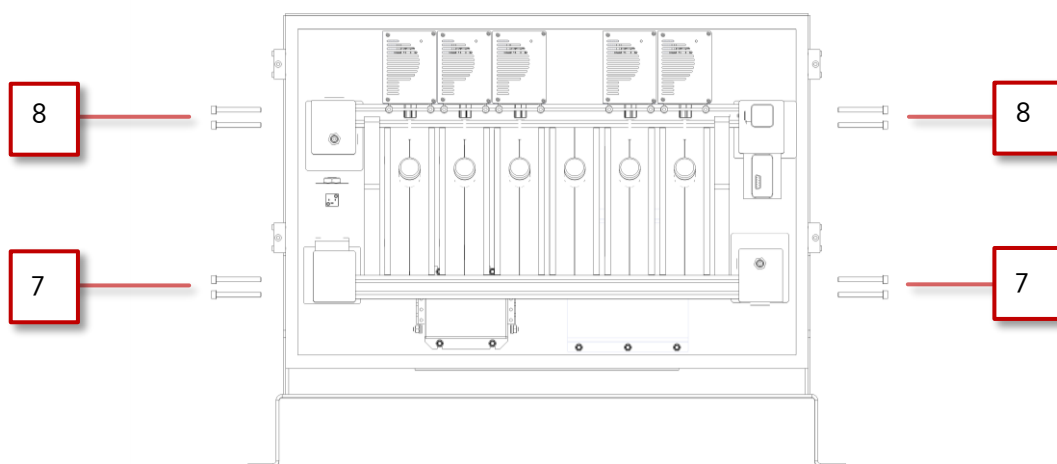

Figure 65 Remove the screws holding the bottom and top connection bars for the reactor block
7. Remove the screws on both sides holding the bottom connection bar (M6), see Figure 65.
8. Remove the screws on both sides holding the top connection bar (M6), see Figure 65.